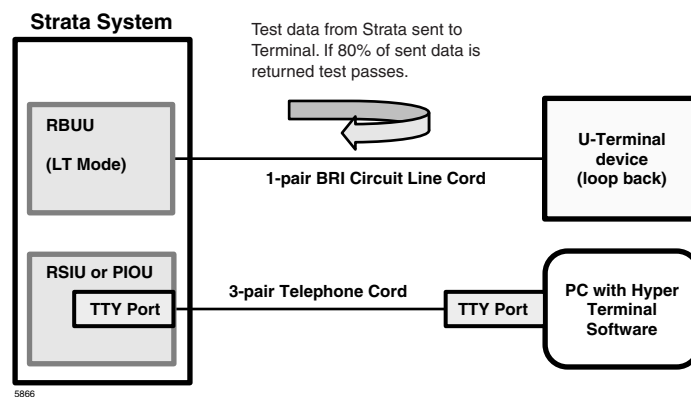

Figure 7-29 Strata CTX TTY Port BRI Connection to PC
1. Connect the U-terminal device to the Strata CTX BRI, RJ45 circuit jack (see Figure 7-29).